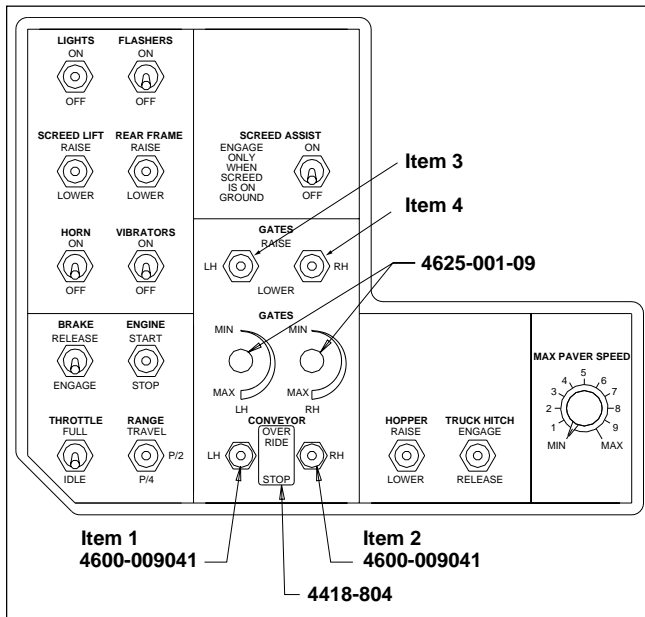

Figure 8
- 1) Left Auger/Conveyor (Item 1, Figure 8) is a two position switch. When the switch is pressed into the STOP position, the auger/conveyor is stopped. When the switch is pressed into the OVERRIDE position the auger/conveyor is turned on.
- 2) Right Auger/Conveyor (Item 2, Figure 8) is a two position switch. When the switch is pressed into the STOP position, the auger/conveyor is stopped. When the switch is pressed into the OVERRIDE position the auger conveyor is turned on.
- 3) Left Flow Gate switch (Item 3, Figure 8) is used to control the amount of material that is delivered to the auger chamber .
- 4) Right Flow Gate switch (Item 4, Figure 8) is used to control the amount of material that is delivered to the auger chamber